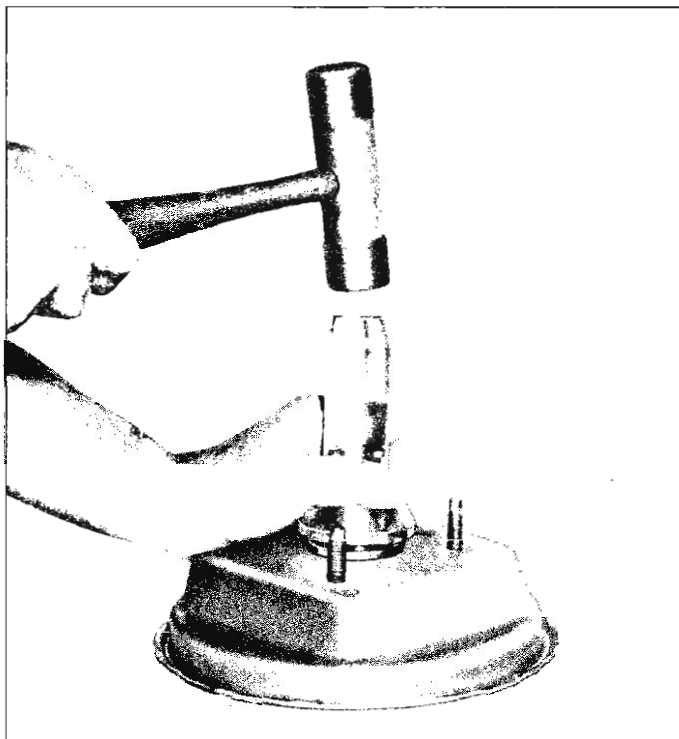

Fig. 8—Installing Piston Bearing Seal
3. Place rear shell on block, to back up plate around center hole, and position bearing seal in center hole. Use Tool J-9540 (fig. 8) to seat seal in recess of rear shell. Tool bottoms against shell when seal is in place.